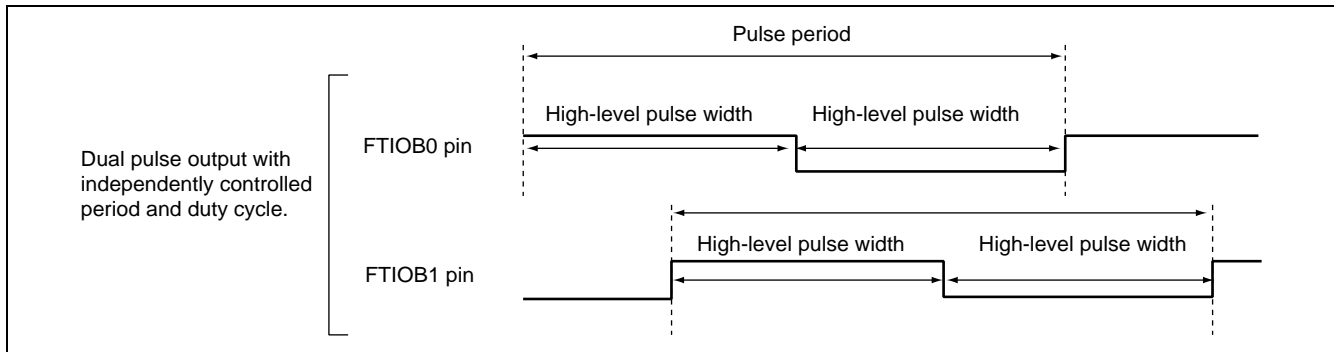

Figure 1.1 PWM Output
2. As is shown in figure 1.1, pulses with variable duty cycle are output by controlling the high-level widths of the pulses (the high-level width and pulse period are independently specified for each of the two pulse outputs).